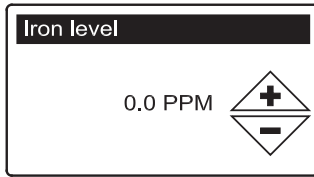

FIG. 21
25. **IRON LEVEL** Press the UP (▲) or DOWN (▼) buttons to set the value for iron in your water (See Figure 21). The conversion factor is 3 grains per 1 ppm of clear water iron.